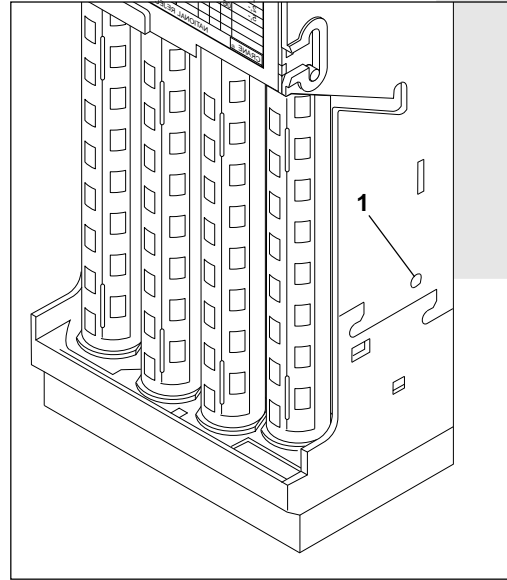

Fig. 11: Unfasten fastening screw
3. It is recommendable to unfasten the fastening screw (**1**) for the cash-box channel on the right-hand side of the housing (see fig. 11).